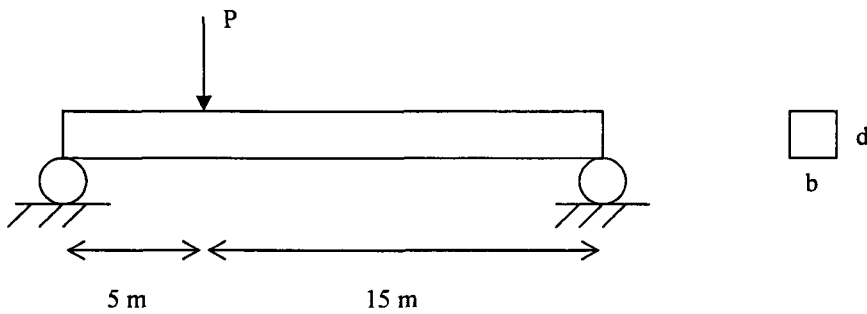

Figure 4
3. A beam is loaded by a force as shown in Figure 4, the specifications of the beam are as follow;